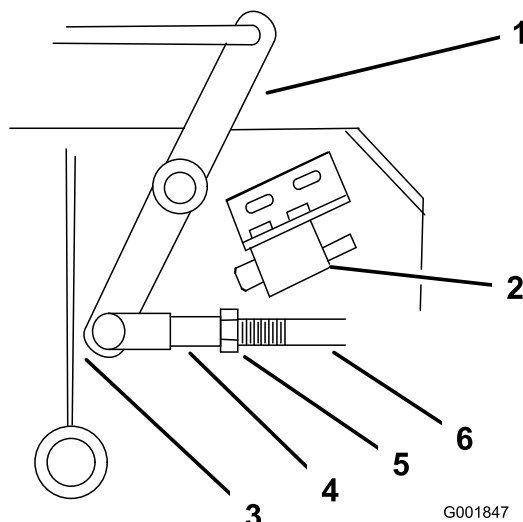

Figure 42
4. Adjust the linkage length to where the lower end of the bellcrank just clears the axle-support gusset (Figure 42).